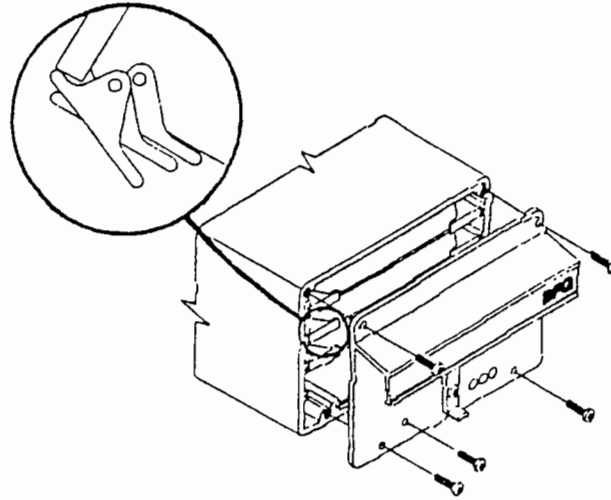

Figure 1 Front view of processor.
- a) Reference Figure 1: Remove five Phillips head screws at the front of the processor unit.